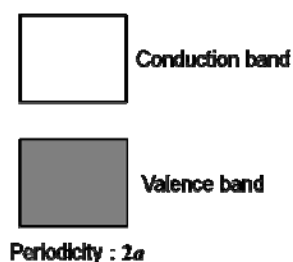

Fig. 4 : Illustration for the continuum electronic states of the 1D chain with a periodicity of $2a$.
f) The 1D chain with a periodicity of $2a$ shows a gap between continuum states, which results in the formation of a filled valence band and an unfilled conduction band, as illustrated in Fig. 4. Since the valence band is filled with electrons and no unoccupied states are available for conduction, polyacetylene is an insulator. When a chemical substance is added to polyacetylene, the valence electrons become mobile. This chemical is obtained by oxidation of an aqueous solution of an alkali halide, and the number of inner-shell electrons in its constituent atoms is the same as that in argon. Write the chemical formula of this substance.